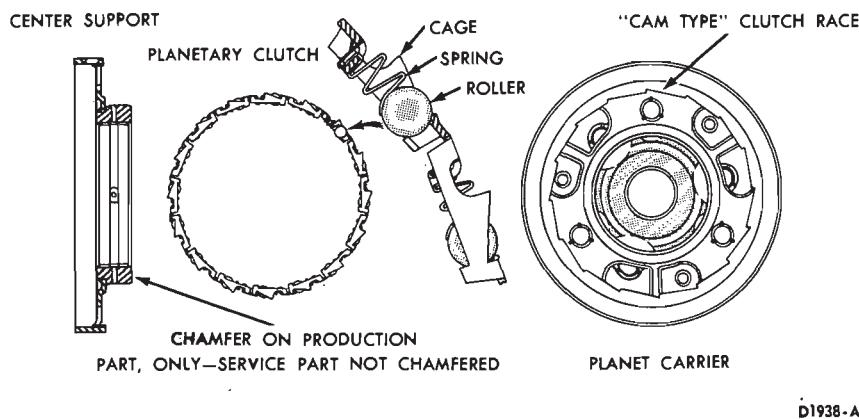

FIG. 55—Planetary Clutch, Planet Carrier and Center Support
chamfered at the edge of the race (Fig. 55). The service center supports are not chamfered. The following assembly procedures cover both types of center supports.
3. Lubricate the bearing surface on the center support, the rollers of the planetary clutch, and the cam race in the carrier with petroleum jelly (Fig. 55).